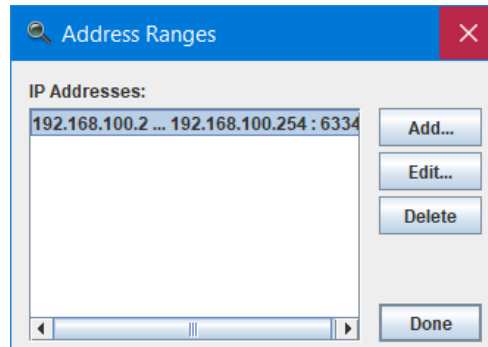

Figure 5-3 Address Ranges Window
- b. An Address Ranges window will open. If the IP address of your Cube/Rack is not in the listed range, click **Edit** to modify the existing range or click **Add** to add a new subnet or range (**Figure 5-3**).